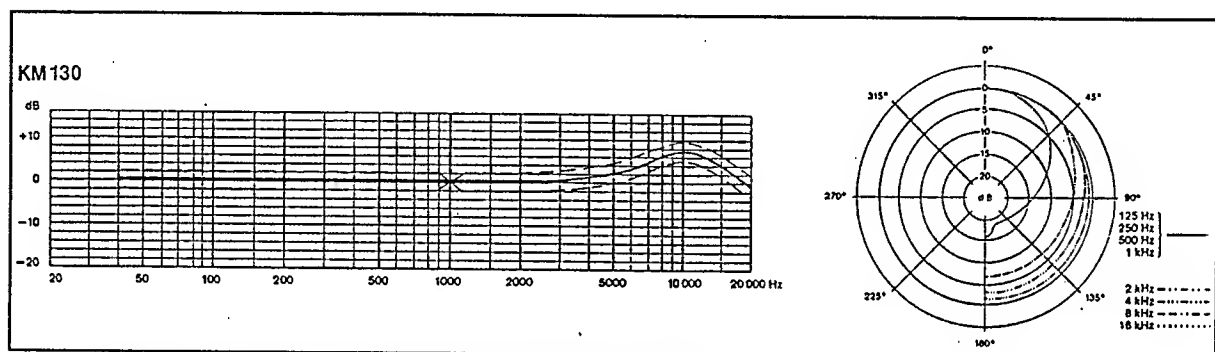

Fig. 5 Microphone with AK 30 omnidirectional capsule
- a) The diffuse-field compensated pressure receiver (omni-directional polar pattern) has a free-field treble lift of about 7 dB at 10 kHz, which makes the diffuse-field frequency response flat up to 10 kHz. The frequency response depicted in Fig. 5 in conjunction with the deliberate complete absence of any post-equalisation in the amplifier makes for an almost ideal transient response of this and the subsequently described capsules. Among other things, this results in a particularly natural and transparent response in the bass range and to precise reproduction of the fine structures of complex sounds.